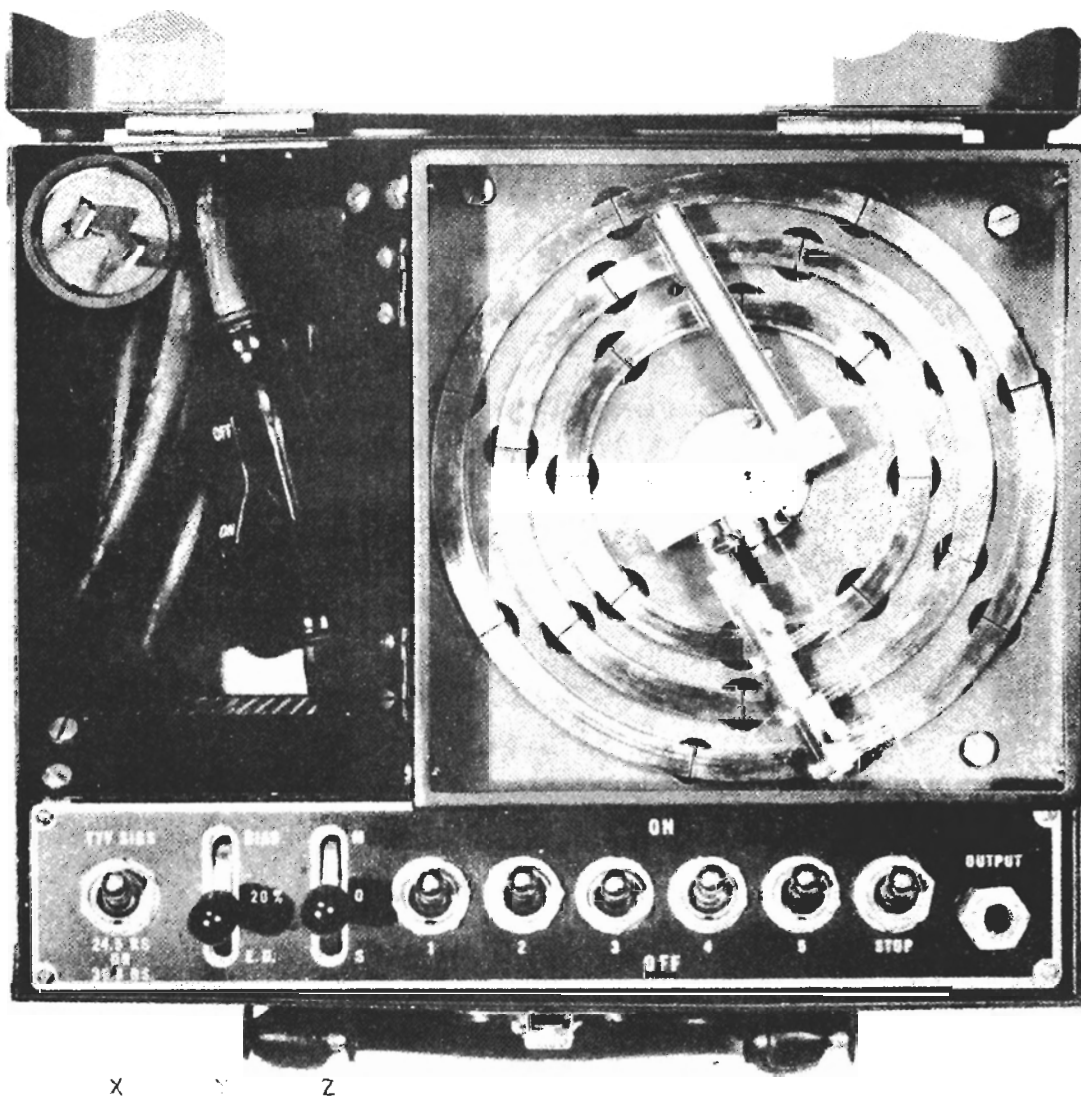

FIGURE 1
(B) CONTROL SWITCHES (Figure 1)
COMMUTATOR BRUSH ADJUSTMENT (Figure 1)